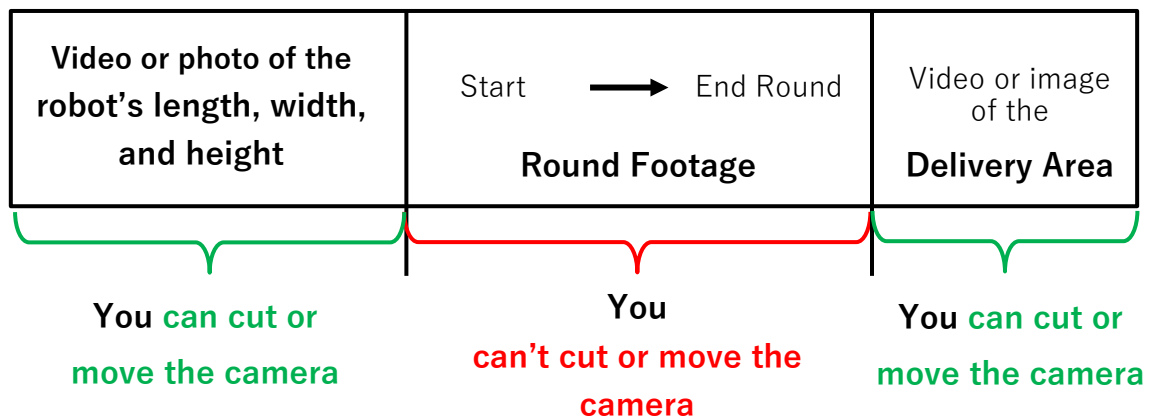

Fig 11. Video Content
- 5) There should be no cuts between the start and the end of the round. You should not move the camera as it films (see Fig. 11).